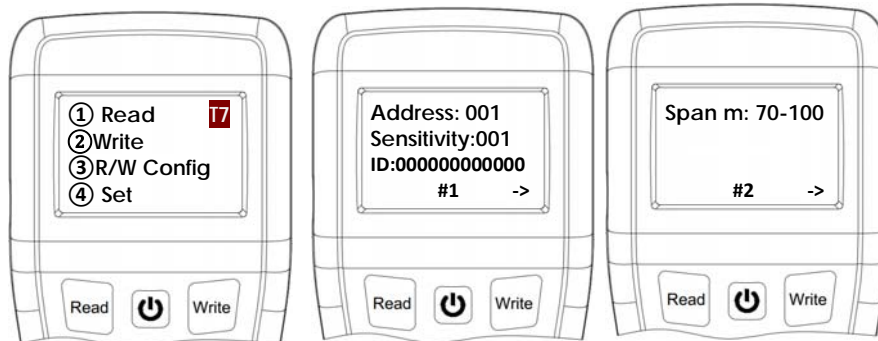

Figure 9
5. Press button "**Exit**" to clear and exit. (Figure 9)